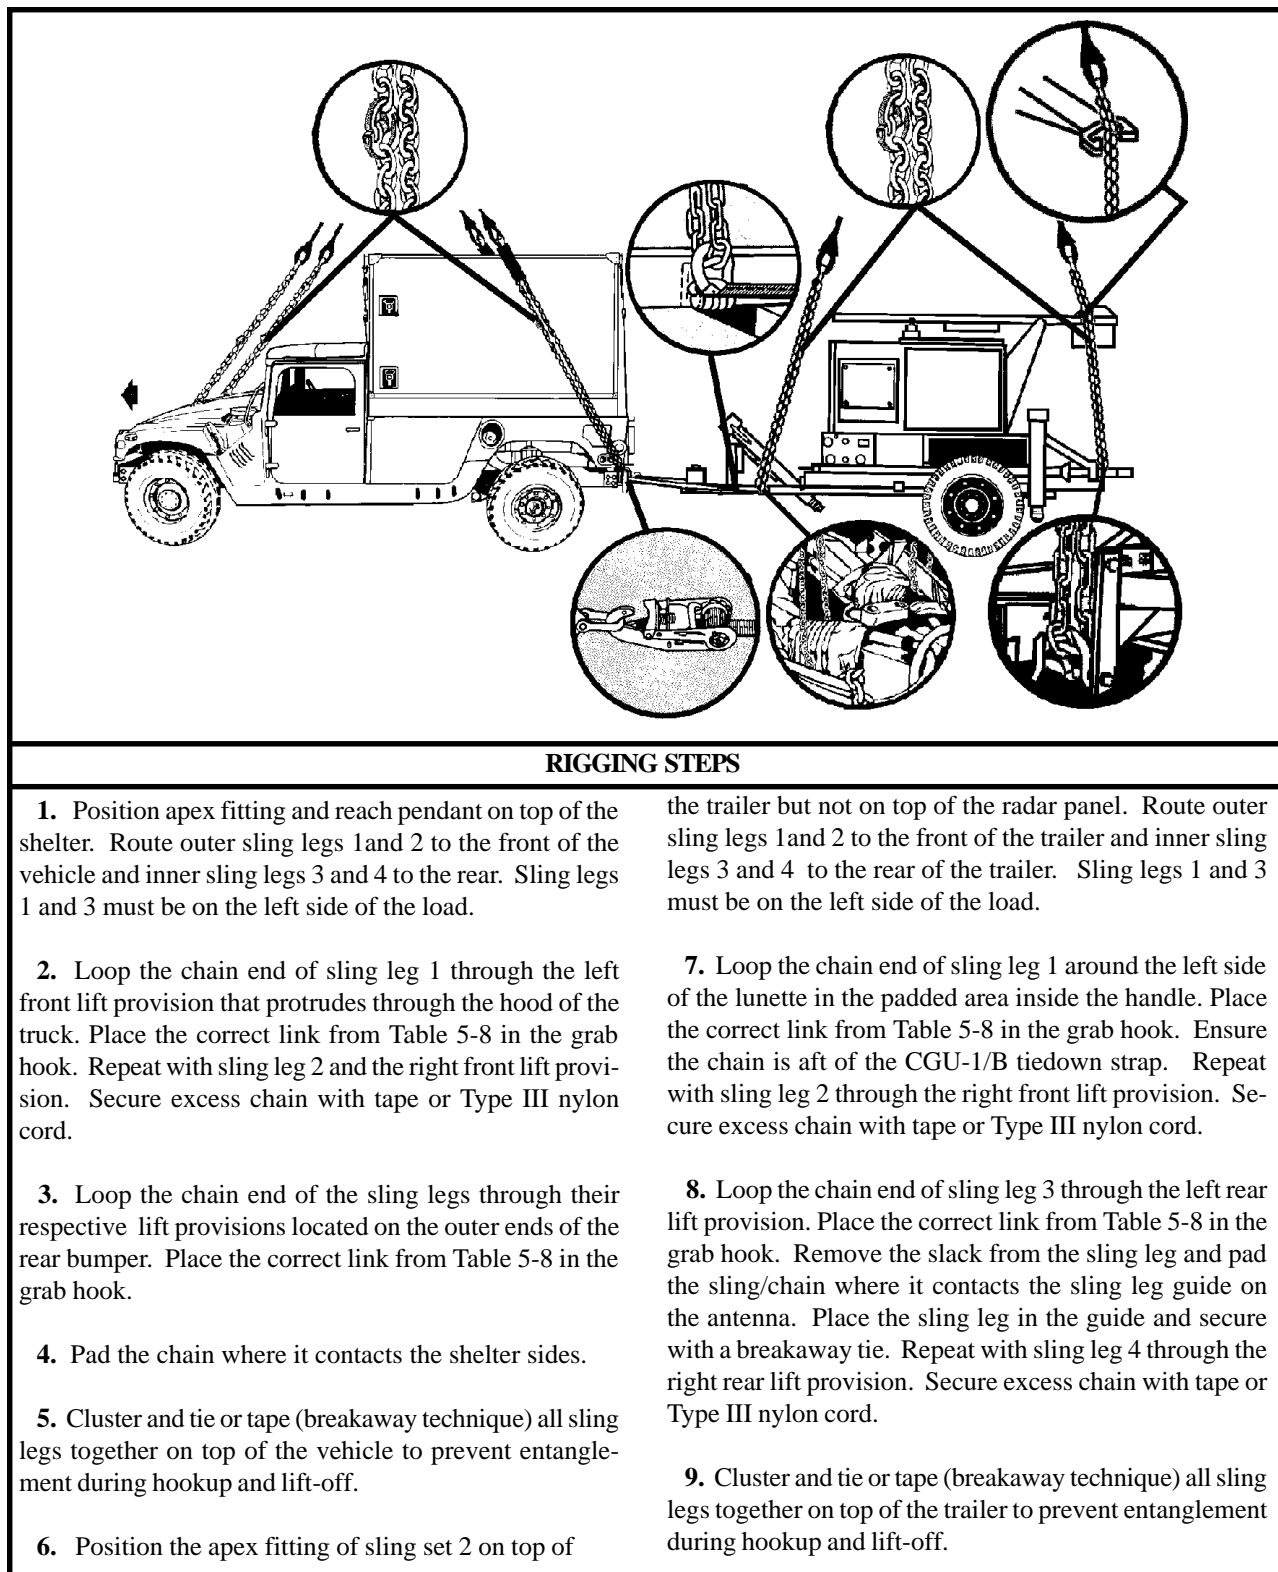

Figure 5-8. M1037 Shelter Carrier, 1-1/4 Ton (HMMWV) with AN/TPQ-36, (S-250 Shelter), Operations Control Group and Radar Set Antenna Mounted on M103A1 Trailer
(2) Rigging. Rig the load according to the steps in Figure 5-8.
(3) Hookup. Two hookup persons are required for this load. The forward hookup person stands on cab of the truck and places apex fitting 1 onto the forward cargo hook. The aft hookup person stands on the fender of the trailer and places apex fitting 2 onto the aft cargo hook. The hookup team then carefully dismounts the trailer and remains close to the load as the helicopter removes slack from the sling legs. When successful hookup is assured, the hookup team quickly exits the area underneath the helicopter to the designated rendezvous point.
(4) Derigging. Derigging is the reverse of the preparation and rigging procedures in steps d (1) and d (2).